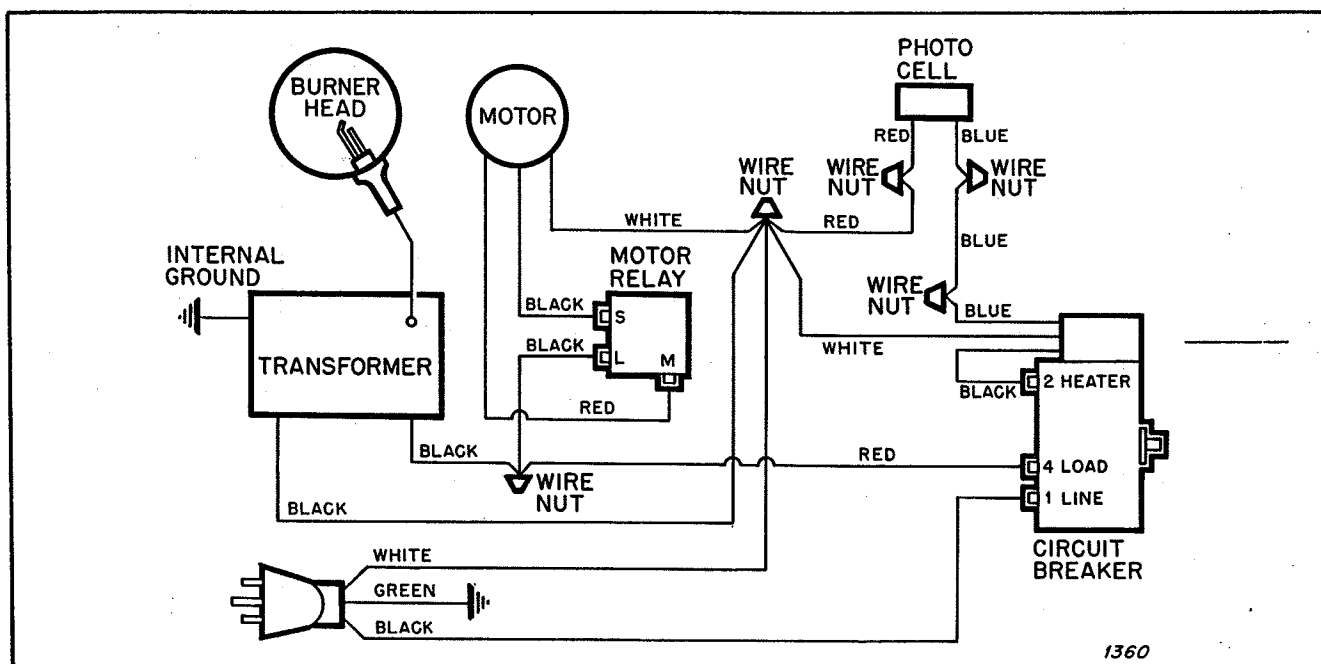

Figure 11. Wiring Diagram
5. Reinstall the attaching screws, and make wiring connections in accordance with Figure 11.
These heaters use fractional horsepower motors and separate starting relays. (See the Wiring Diagrams, Figure 11).
c. If the motor starts, install a new relay, and reconnect the wiring according to the Wiring Diagram, Figure 11.
(1) Internal fault in the motor, such as burned-out stator.
(2) Failure of the starting relay.